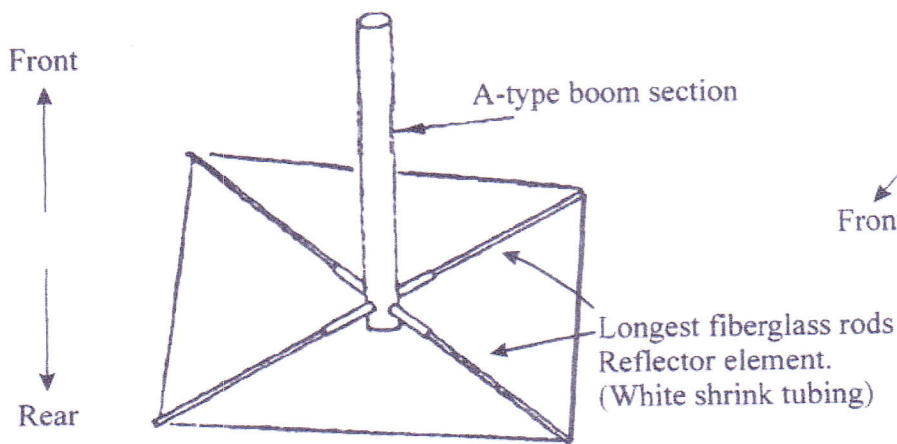

figure 5
- 6) There are 6 bundles of fiberglass rods. Select the 4 longest rods, and insert them in the 1/2" dia rod support brackets in the A-type boom section from step 2.- (The drilled end of the rods must be away from the boom). Carefully unroll the REFLECTOR element wire. This wire is identified by WHITE shrink tubing, marking the points of attachment to the fiberglass rods. Attach the wire to the rods using 4 wire clamps and 4-40 hardware, including 4-40 x 3/4 bolts, nuts, & lock washers. Wire should be attached facing rear of antenna. Refer to figures 5 & 6.